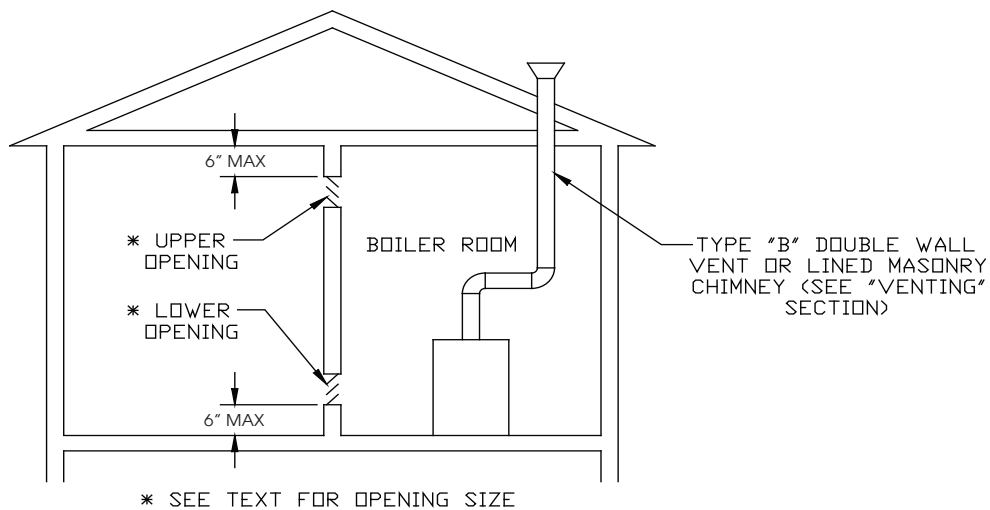

FIGURE 5.1: INDOOR COMBUSTION AIR METHOD
- 4) If the result is at least 50 ft3 per 1000BTU/hr, and neither of the conditions described in (6) below are met, normal infiltration should provide adequate fresh air into the boiler room.
- 5) If the result is less than 50 ft3 per 1000BTU/hr, provide two openings into the boiler room, one near the floor and one near the ceiling. The top edge of the upper opening must be within 6” of the ceiling and the bottom edge of the lower opening must be within 6” of the floor (Figure 5.1):